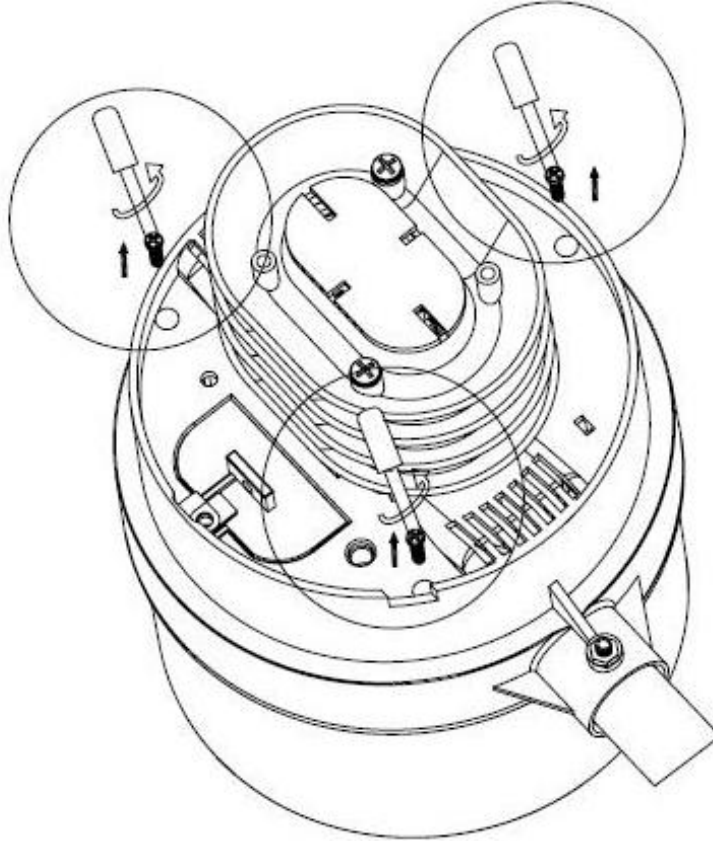

Figure 35
1. Reference Figure 35. Loosen the three recessed screws on the bottom of the rain gauge assembly until there is little tension.